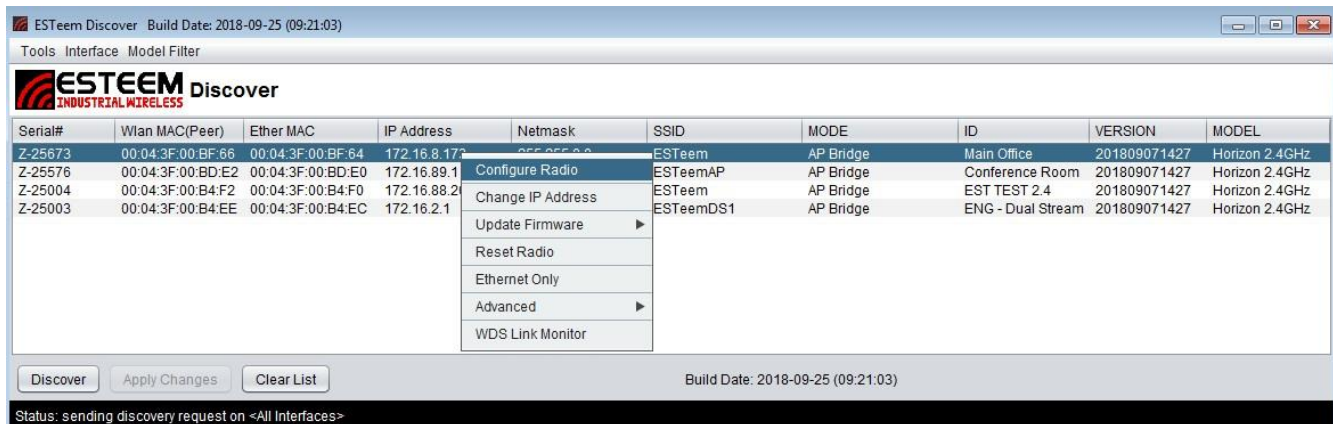
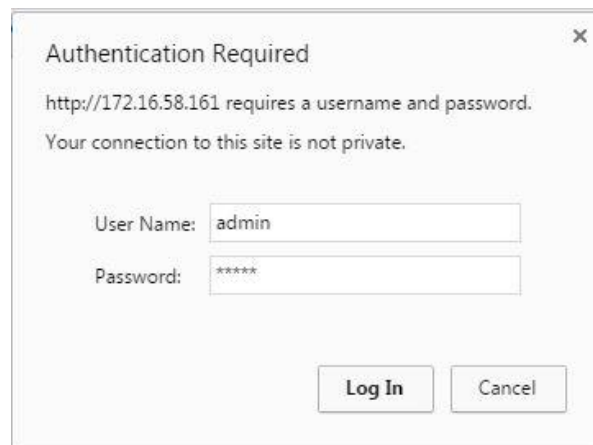

Figure 3: Opening Radio Configuration Software
Figure 5: ESTeem Web Page Log-on Screen
Ethernet Bridge Mode Example 3 (Figure 3)
- If changes were made to the IP address, you will need to press the *Discover* button again to show the changes. Right-mouse click on the Horizon and select *Configure Radio* button to begin programming (Figure 3).
To quickly open a web browser page to the IP address programmed in the Horizon, “right-mouse” click on the Horizon’s MAC address and select Configure radio from the menu (Figure 3). If your computer is configured for the same IP subnet at the ESTeem Horizon wireless modem, you will be asked to sign in with the Username and Password (Figure 5). You can now begin programming the Horizon for your application.